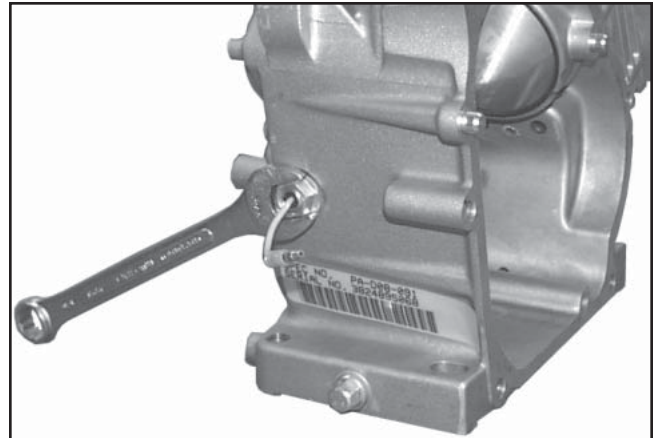

Figure 11-19. Oil Sentry™ Wire Lead Grommet Mounting.
3. Install the nut on the grommet assembly external stud and torque to 10 N·m (89 in. lb.). See Figure 11-19.